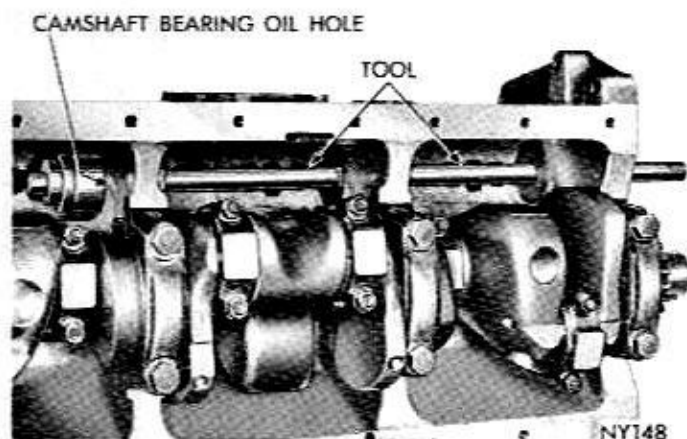

Fig. 29—Removing Camshaft Bearings (Tool C-3132A)
(1) Install new camshaft bearings with Tool C-3132A by sliding the new camshaft bearing shell over the proper adapter.
(2) Position bearing in tool. Install horseshoe lock and drive the bearing shell into place, (Fig. 29). The camshaft bearing oil hole or holes must be in exact alignment with drilled oil passage or passages from the main bearing.
(3) Install remaining shells in like manner. Install NO. 1 camshaft bearing 3/32 inch inward from the front face of the cylinder block.
(4) Apply sealer to the plug and install a new welch plug at the rear of camshaft. Be sure this plug does not leak.